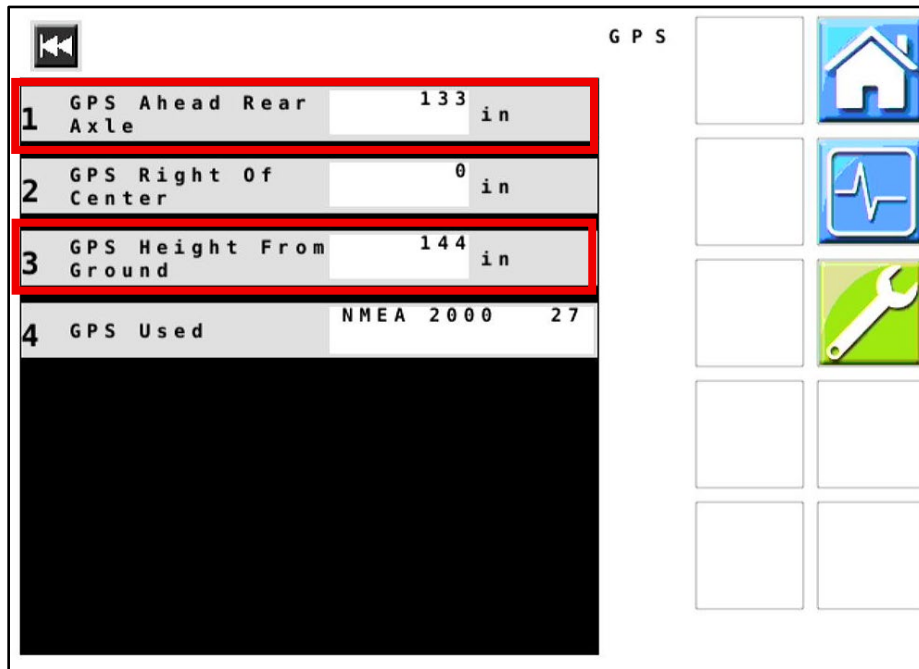

Figure 23 — GPS
46. **Figure 23:** Select the type of GPS from the list of available options. Not all the options listed here will be shown on your system. Only the types available for your system will be shown on your list.
47. **Figure 23:** Enter the measurements shown above for **GPS Ahead Rear Axle** and **GPS Height From Ground** if required.